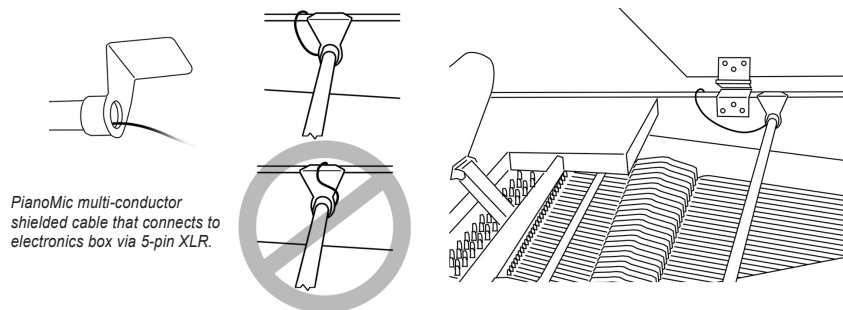

Figure 7. Positioning the PianoMic Cable
6. Notice that one end of the PianoMic™ has a multi-conductor shielded cable coming out of the tube below the support arm (Figure 7). It doesn't matter which side of the piano the cable exits. The main objective is to place the PianoMic™ in the piano so that the microphone heads can be easily placed 2 to 3 inches in front of the dampers. The cable is long enough to easily reach the opposite side of the piano should you decide to locate the electronics box on the opposite side of the piano from where the cable comes out of the PianoMic™. You will need to position the cable so it does not lie on top of the support arm. The combined thickness of the support arm with the cable on top if it would exceed the size of the opening between the piano case and the lid. Therefore when the lid is closed it would pinch and deform the cable. To avoid this, place the cable to one side of the support arm. You may also position the cable so it comes out the open area of the piano as illustrated in Figure 7.